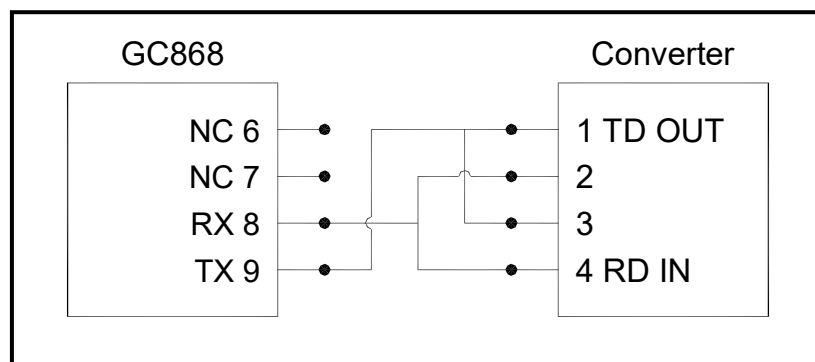

Figure 36: Typical RS485 Connections
3. Feed one end of the cable through the conduit hole, wire it to terminal block J1 and secure the cable clamp. Connect the other end of the cable to the converter, as shown in *Figure 36* below.